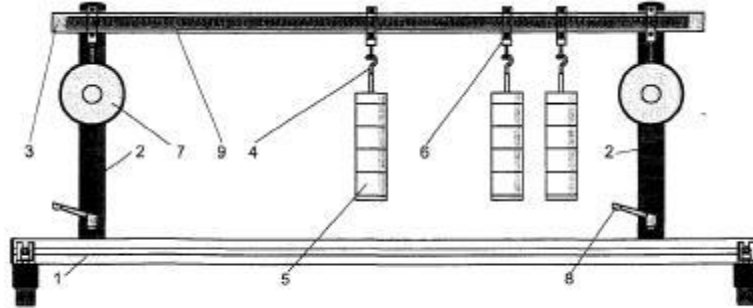

Figure 5.1
In this experiment, students will compute the reaction forces of a simply supported beam that is loaded by suspended weights. The apparatus consists of an aluminum base (1), on which two columns are mounted that serve as supports (see fig. 5.1). A rigid beam (3) is supported by the columns. The beam can be stressed through the use of weight mounts (4) and weights (5). The resulting bearing forces are displayed by the dynamometers (7) which are integrated in the columns. The columns can be adjusted by loosening the locking lever (8). It is also possible to shift the sites of weights on the beam by moving the slides (6) from which they are suspended. The position of the point where force is applied can be read on a millimeter scale (9).
When forces are applied to a beam as in Fig. 5.1, bearing/reaction forces occur in the support A and B. These bearing forces can be determined by “cutting away” the beam and setting up the equations for the equilibrium forces and moments. Equilibrium of forces must be present in all directions of the co-ordinate system. If the dynamometer readings are corrected to zero before loading weights by adjusting the dial, the mass of the simply supported beam can be ignored in the moments equations and equilibrium equations.